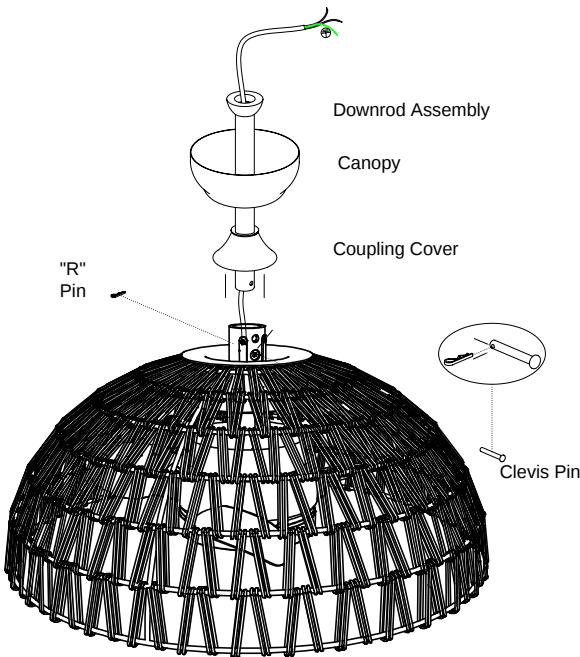

Fig. 1
Step 2. Assemble the canopy and coupling cover as Fig. 1.
Align the holes at the bottom of the downrod with the holes in the downrod hub. Carefully insert the clevis pin through the holes in the collar and downrod. Be careful not to jam the clevis pin against the wires inside the downrod. Insert the "R" pin into the end of the clevis pin (Fig. 1).